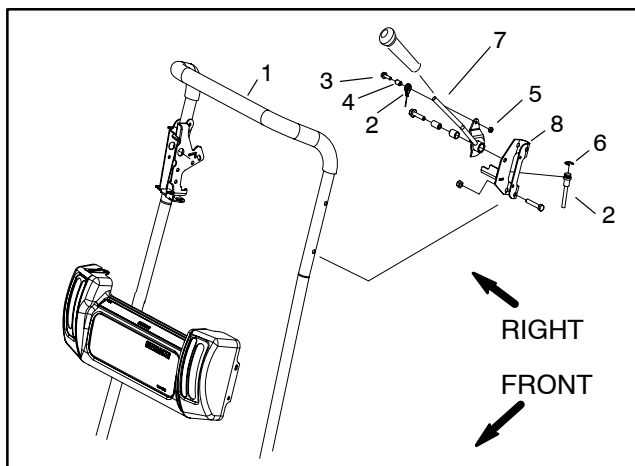

Figure 6
4. Remove flange head screw, spacer and lock nut that attaches brake cable eyelet to brake lever on mower handle (Fig. 6).
5. Remove retaining ring securing the brake cable to the brake bracket (Fig. 6). Remove cable from the bracket.
1. Secure brake cable eyelet to the brake lever on the mower handle with flange head screw, spacer, and lock nut (Fig. 6).
2. Position cable to the brake bracket and install retaining ring (Fig. 6).